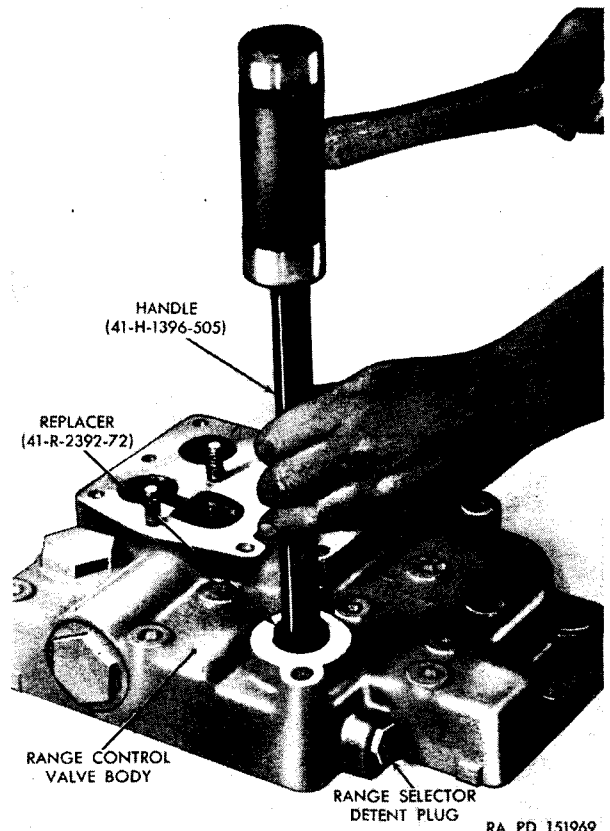

Figure 230. Replacing range-selector-shaft oil seal.
- (1) Inspect the valves for burs and scratches and if found remove them with crocus cloth or a soft stone. Inspect all springs for proper length and tension. Inspect valve seats (KK and MM) and valve sleeves (H, N, NN, and UU) for burs, scratches and looseness. If these defects are found and cannot be removed with crocus cloth or a soft stone, replace the valve body assembly.
- (2) Do not remove any of the pipe plugs (PP) from the valve body unless they are defective. If the range-selector-shaft oil seal (U) is defective, remove it and install a new seal, using replacer (41-R-2392-72) and handle (41-H-1396-505) (fig. 230).
- (3) Inspect the valve body to housing gasket (SS), valve body to converter oil filter gasket (DD) and the "O" ring gaskets and annular gaskets for cracks, tears, and hardness. Replace if defective.